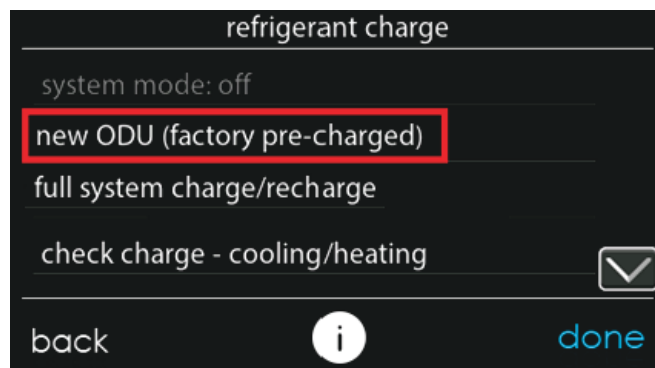

Fig. 15 – Refrigerant Charge Mode Selection
- For new installations, select “new ODU (factory pre-charged)” from the refrigerant charge screen to begin charging the system (Fig. 15). For applications where there is no charge in the ODU, select “full system charge/recharge”.